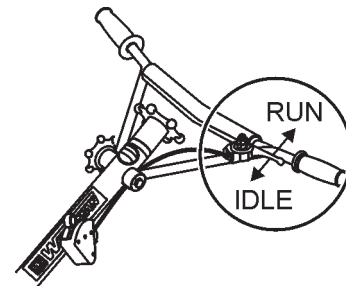

Figure 7. Throttle
1. Place the throttle lever (Figure 7) to the idle position.